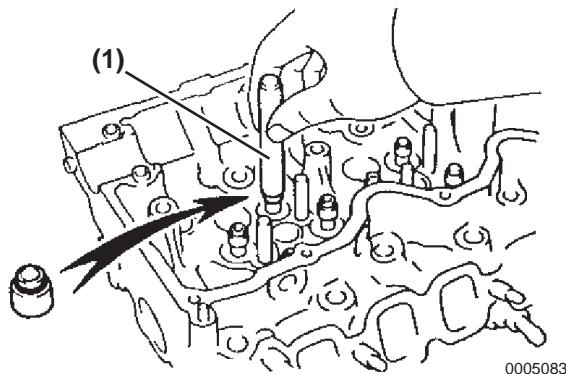

Figure 5-56
1. Using a suitable tool (**Figure 5-56, (1)**) press new valve stem seals into the valve guides.